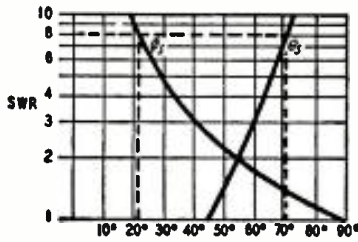
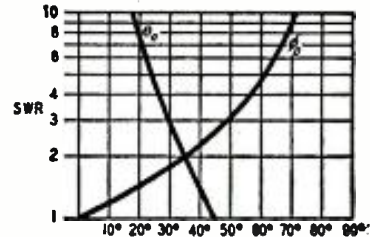

Fig. 8—Chart used in design of shorted stub.
Fig. 10—A design chart for open-ended stubs.
The distance between the current node (minimum) closest to the antenna, as found with the ammeter, and the point of stub connection is θ_s . In the graph of Fig. 8, find where a horizontal line from the s.w.r. (previously found) on the vertical axis intersects the θ_s curve. Reading straight down from this point will give the length of θ_s in electrical degrees.
Open-ended stubs can also be used when a current antinode (loop or maximum) is nearer to the antenna than a current node (minimum). Fig. 11 shows that the scheme is much the same as that of Fig. 7, except that the current maximum instead of the minimum is the reference point (X). The chart of Fig. 10 is used for open-end stubs in the same way as the first chart (Fig. 8) is used for shorted stubs.